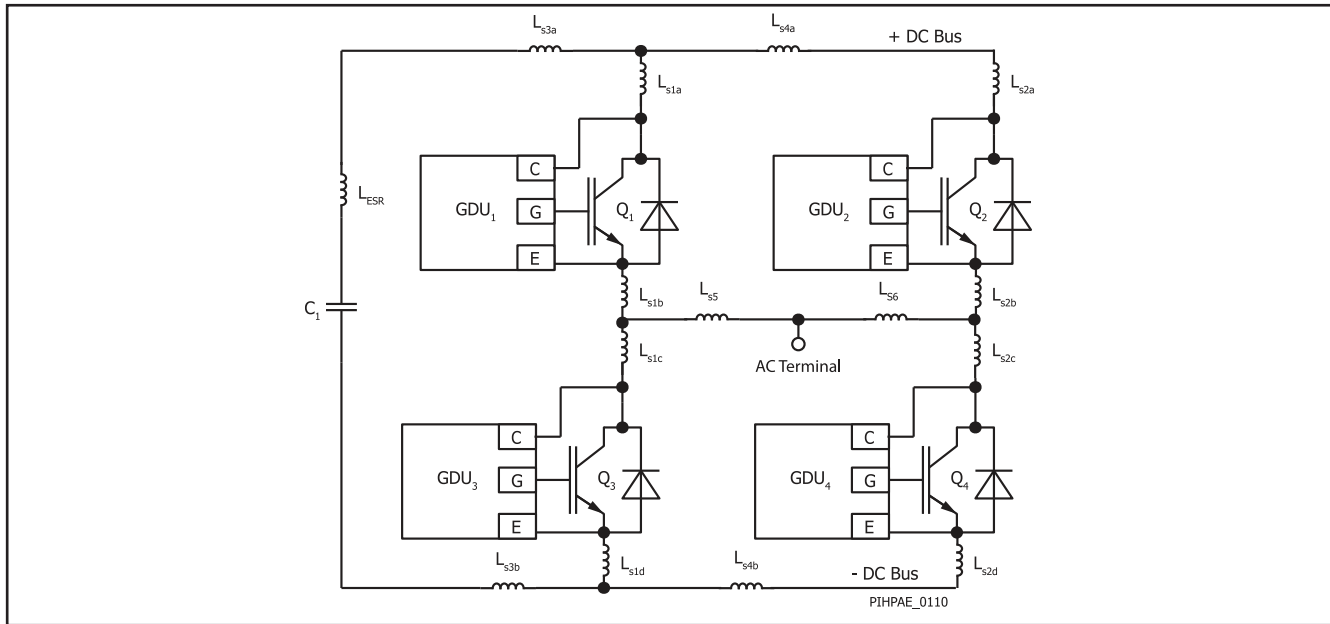

Figure 5. Half bridge topology with stray inductance.
- The converter should be constructed as symmetrically as possible with respect to the paralleled IGBT modules in order to ensure symmetrical operation. The DC-link stray inductance of each paralleled IGBT module in particular should be similar ( $L_{s1x} \approx L_{s2x}$ ,  $L_{s5} \approx L_{s6}$  in Figure 5).